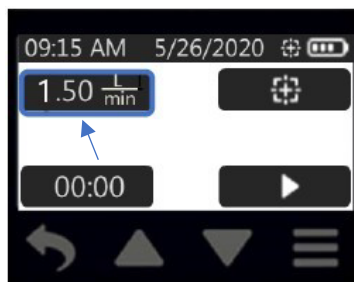

Figure 6. Flow Display
3. Touch flow display (Figure 6).